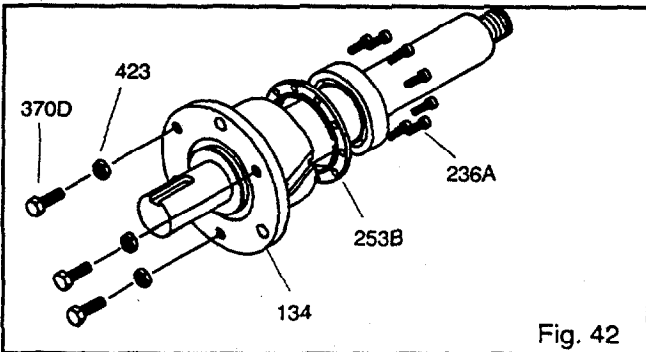

Fig. 42
3. Remove jack screws (370D) with nuts (423) (Fig. 42).
4. Remove clamp ring screws (236A). Separate clamp ring (253B) from bearing housing (134).